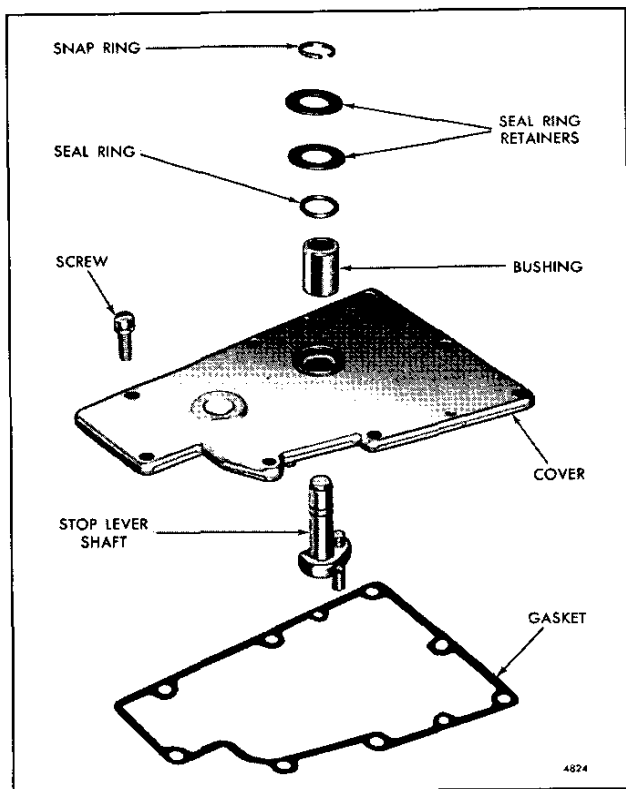
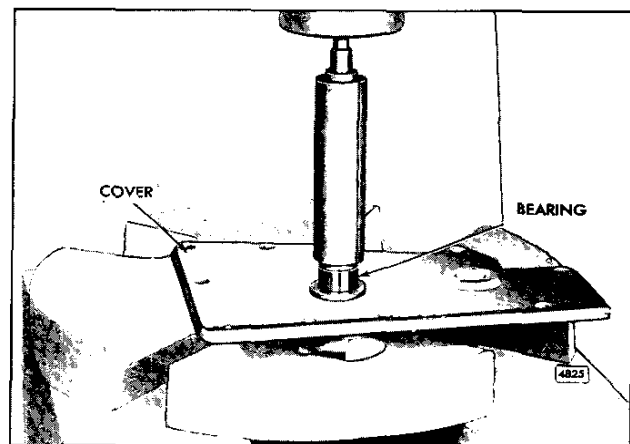

Fig. 16 – Governor Cover Details and Relative Location of Parts
Fig. 17 – Installing Bearings in Governor Cover Using Tool J 21068
6. Refer to Fig. 16 for the location of the various parts and assemble the governor cover as follows:
- a. If the stop lever shaft bushing (Fig. 16) was removed from the cover it must be replaced with two (2) needle bearings. Place the cover, inner face down, on the bed of an arbor press as shown in Fig. 17. Then lubricate the new needle bearing with engine oil and start the bearing, numbered end up, straight in the bearing bore in the cover boss.